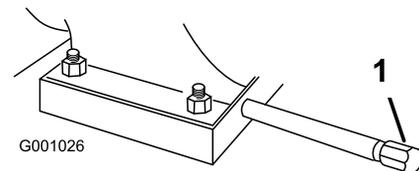

Figure 41
- Clean the area around the oil drain cap (Figure 41).